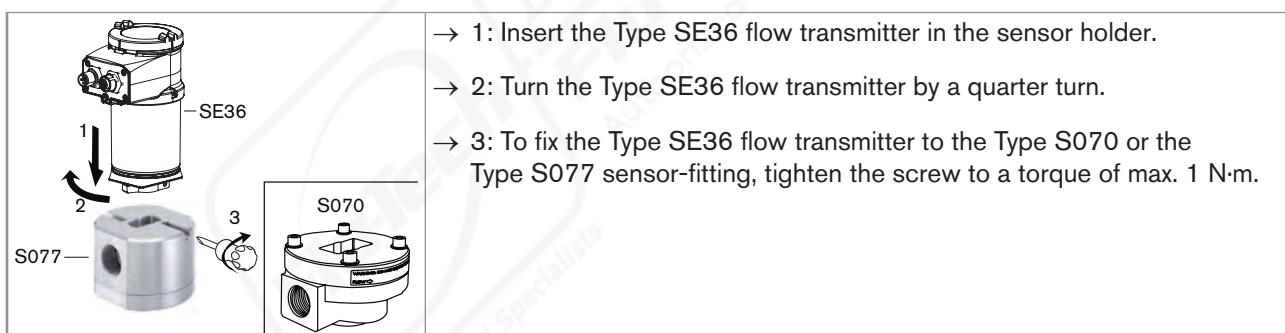

*Fig. 12 : The oval gear axes must be horizontal (seen from the front)*
- Install the Type S070 or the Type S077 sensor-fitting in the pipe so that the oval gear axes are in the horizontal plane. Refer to Fig. 12.